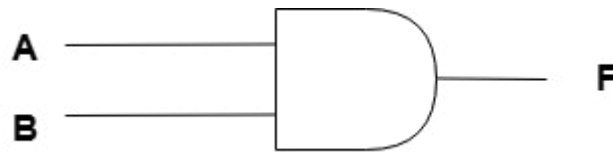

Figure 9.1: Two-input AND Gate
The AND gate represented in Figure 9.1 has two inputs (A and B) and one output (F). Below is a simple table for this two-input AND gate.